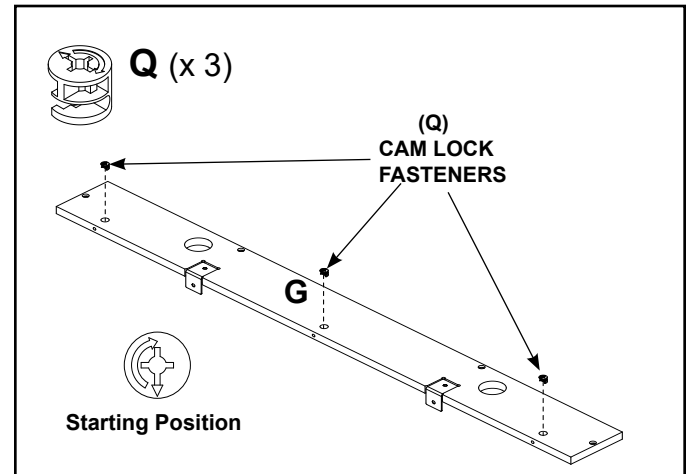

Figure 14
- Install three (3) Cam Lock Fasteners (Q) into part "G" with the arrows in the orientation shown on page 2 and Figure 14.